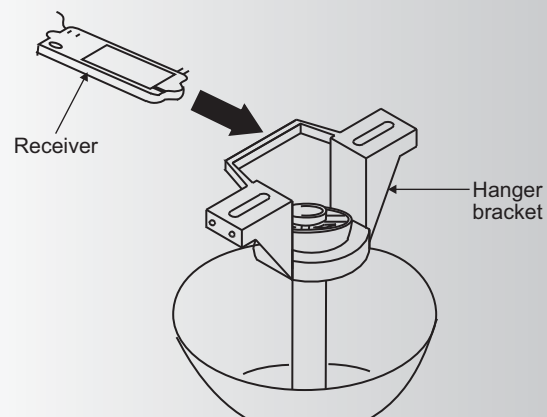

Fig. 14
Step 1. Insert the receiver into the ceiling mounting bracket with the flat side of the receiver facing the ceiling. (Fig. 14) For best performance, make sure the Black Antenna, on the end of the receiver, remains extended and not tangled with any of the electrical wires.